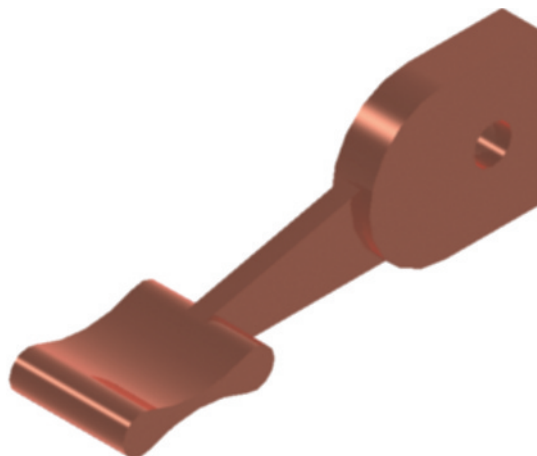

Fig. 18.26 Third example of 3D models
Third example (Fig. 18.26)
4. **3D Navigate/Southwest Isometric.** Render (Fig. 18.26).